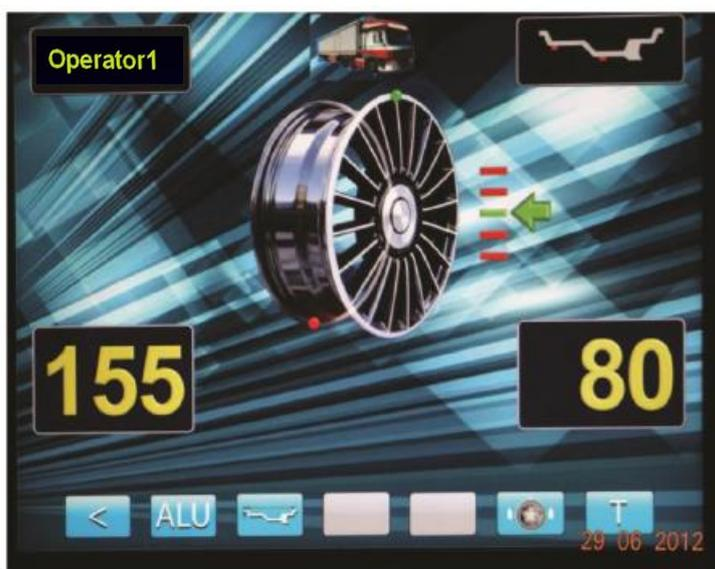

fig. 12.2
12.1.6. Start the WB by pressing the button «START». The image of the wheel disc on the main working mode screen will start to rotate. After the measurement cycle is complete the braking device will stop the WB shaft. Windows 1 and 4 will display the value for the mass of the balancing weights and the image of the disk will show two red dots in the places where the weights should be added. (fig. 12.2.).